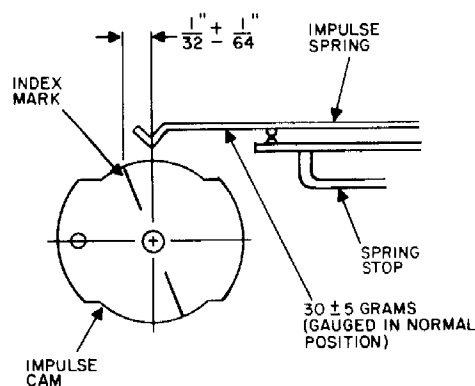
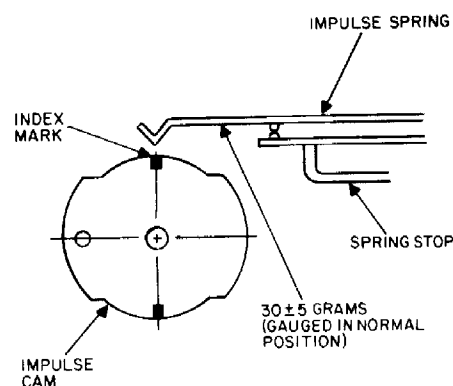

Figure 25. Positioning of Old Impulse Cam Relative to Impulse Spring.
Figure 26. Positioning of New Impulse Cam Relative to Impulse Spring.
impulse spring contacts, as near the center of the contacts as possible (Figures 25 and 26).
- (c) The index mark on the old impulse cam must be $1/32 \pm 1/64$ inch counterclockwise from the centerline of the radius of the impulse spring as gauged visually (Figure 25). The index mark on the new impulse cam must be in line with the centerline of the radius of the impulse spring as gauged visually (Figure 26).